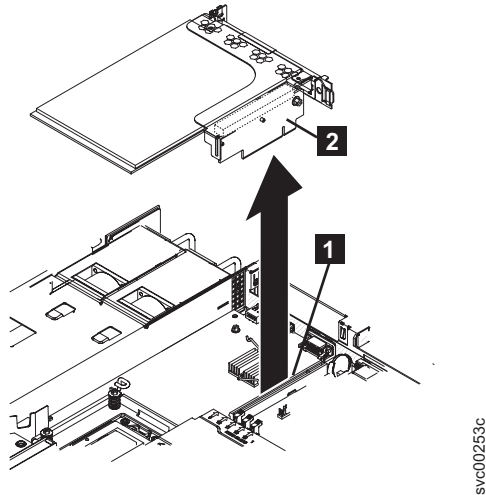

Figure 189. Removing the high-speed SAS riser-card assembly for the SAN Volume Controller 2145-CF8
9. After removing the back-rail retaining screws for the adapter assembly, grasp the riser-card assembly at the rear edge and lift to remove the assembly, as shown in Figure 189 on page 204.